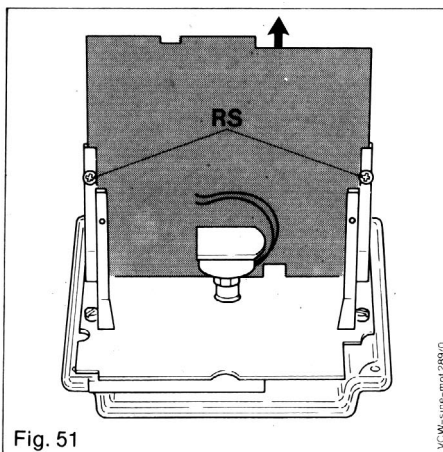

Fig. 51
14.6.3 Change of electronic thermostat circuit board (T.C.B.) (Fig. 51)